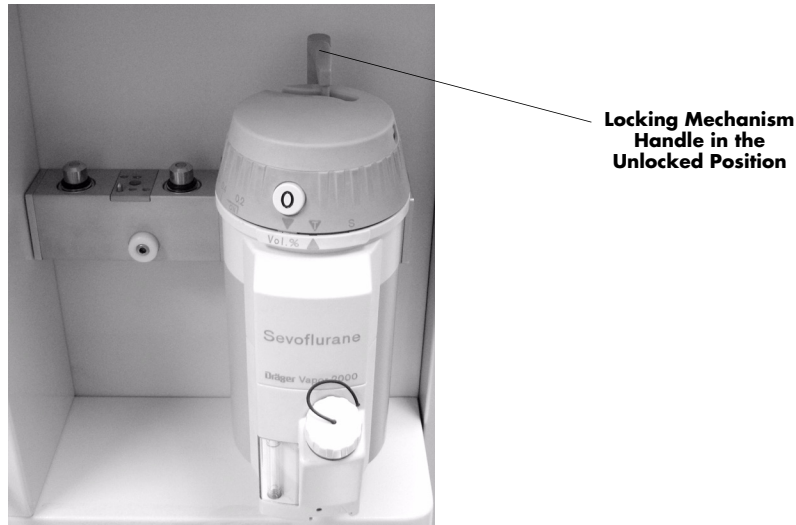

FIGURE 2-1 Vaporizer, Unlocked
1. Align the vaporizer over the valve cartridges of the mounting bar. Hang the vaporizer on the mounting bar as shown in FIGURE 2-1. Note that the locking mechanism handle is in the unlocked position.